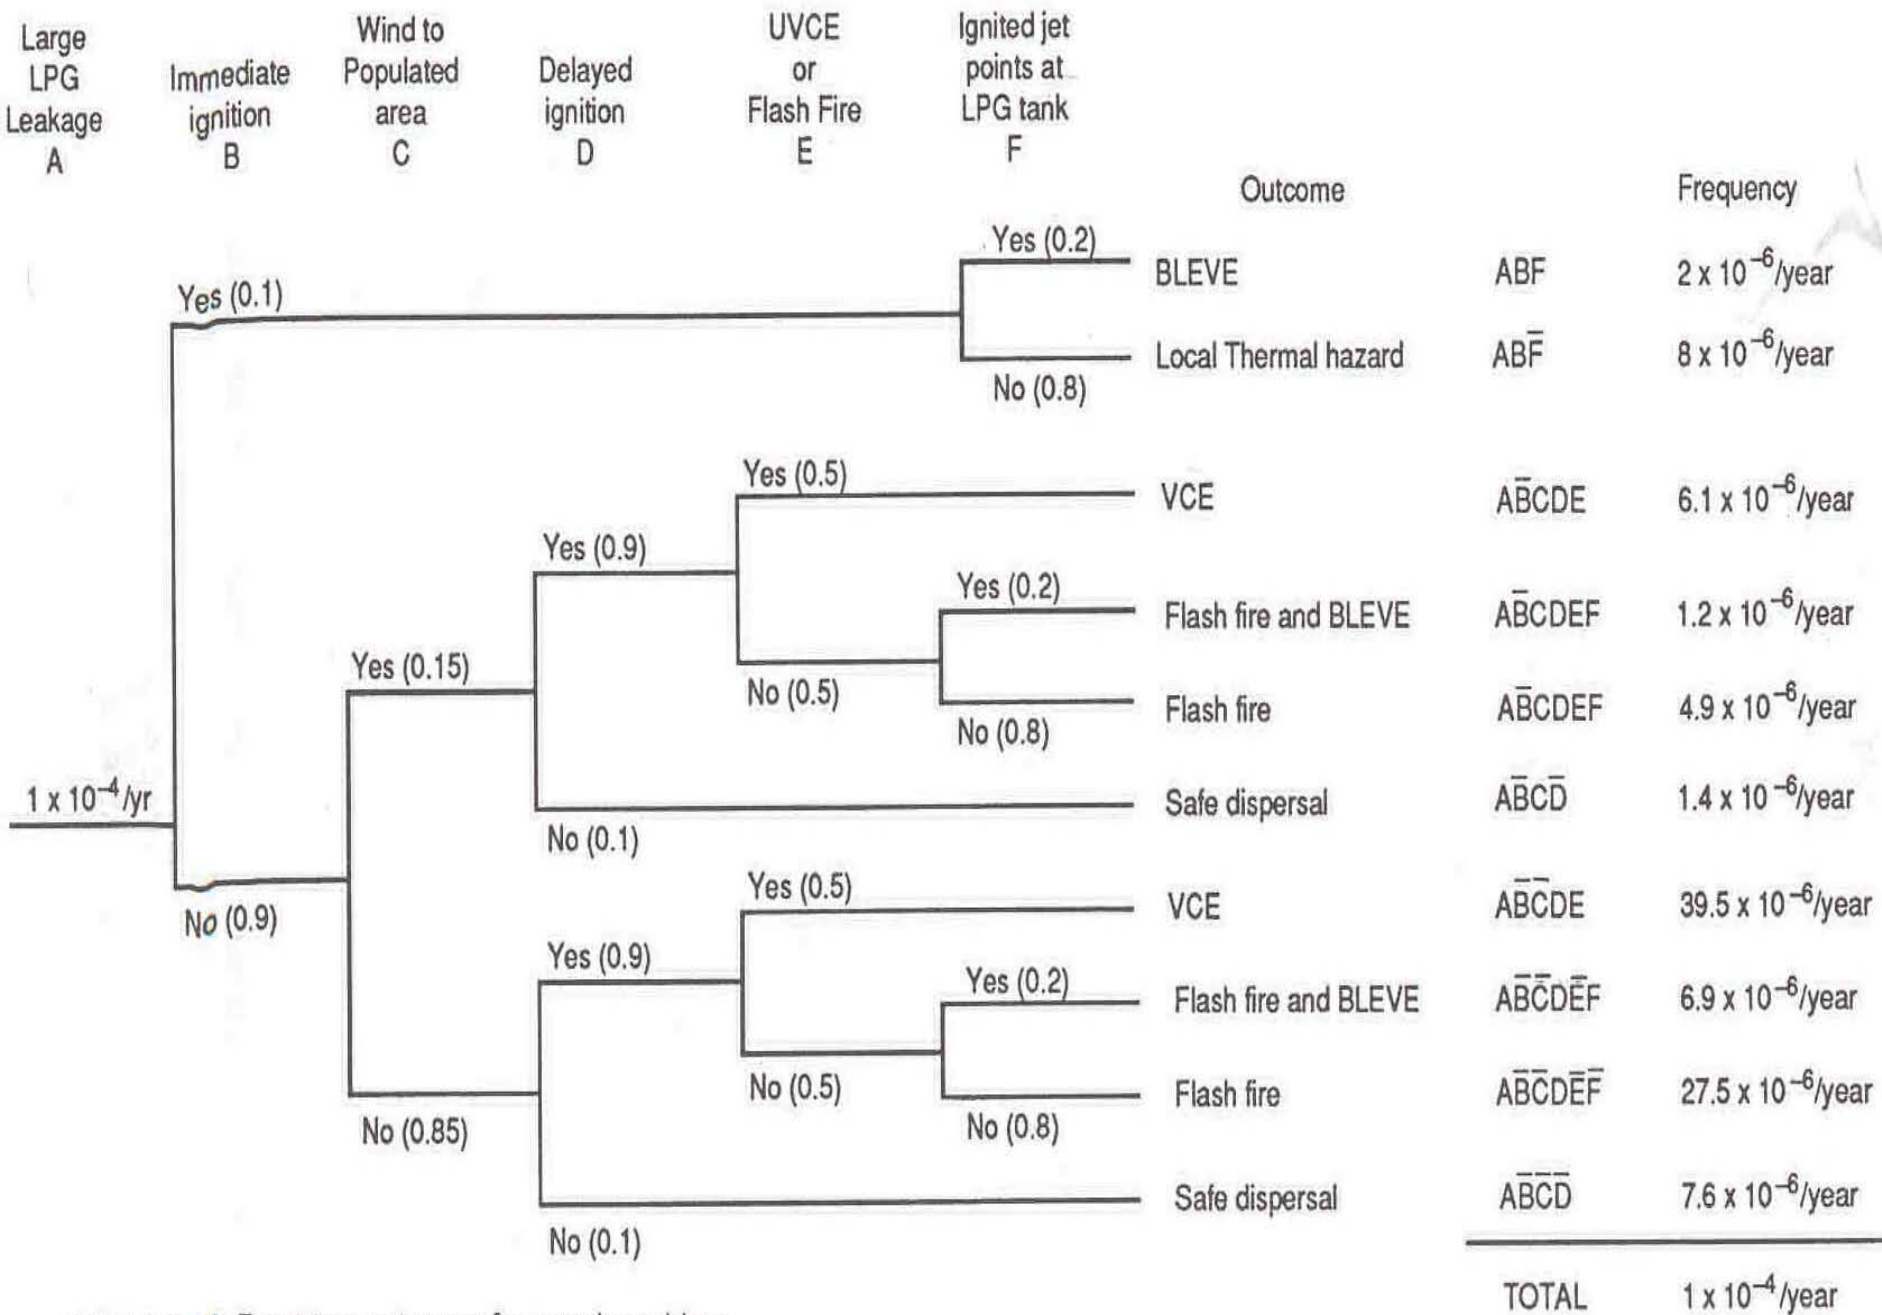

FIGURE 3.10. Event tree outcomes for sample problem.
- Figure 3.10 provide the event tree for LPG leakage